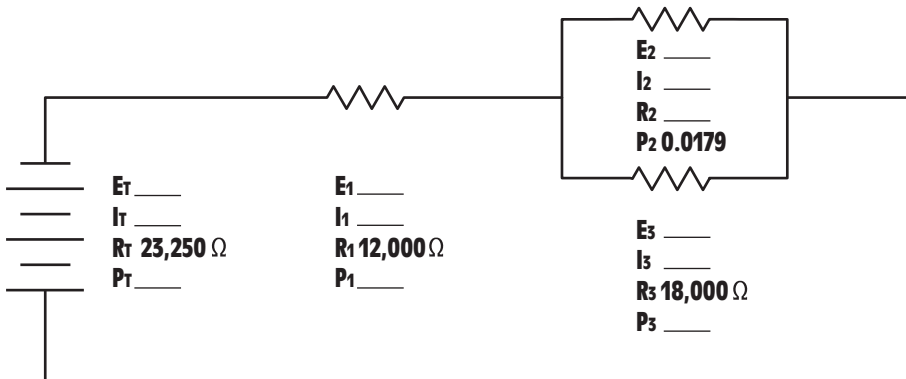

Figure 7-26 Practice Problem 6.
6. Find all the missing values in the circuit shown in *Figure 7-26*.